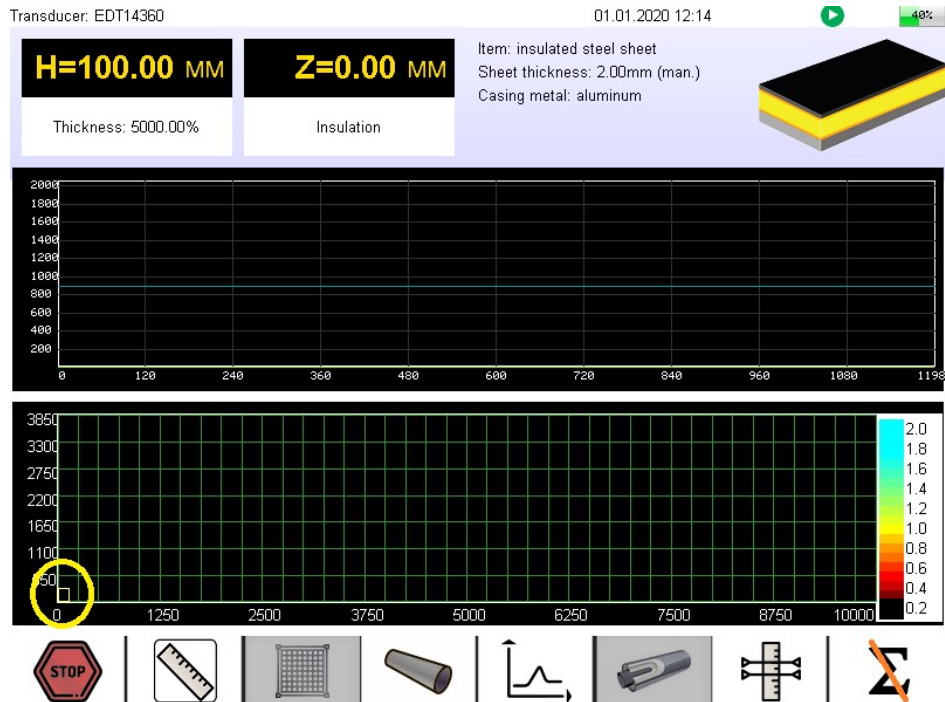

Figure 51. Sensor position indicator.
- The current sensor position indicator is displayed in the lower left angle of C-scan. Immediately after the start of scanning, the sensor position indicator is in the C-scan point with coordinate (0.0). This position is shown in Figure 51.